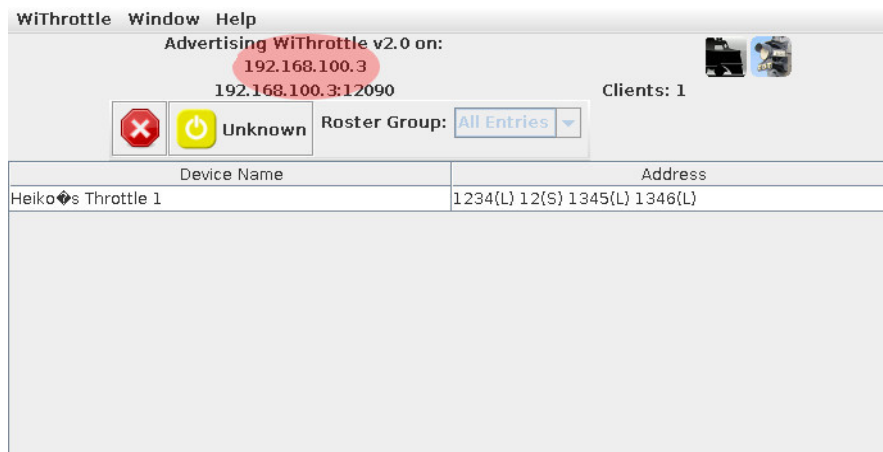

Figure 7: Screenshot of wiThrottle screen showing one throttle connected
In the second case, the throttle will change the last tuple of it’s IP address to .253 – so if the wireless network is configured with IP addresses in the *192.168.100.x*-range as highlighted in figure 7, any web browser can access the configuration at *http://192.168.100.253*.
**Throttle name:** This is a free-form identification string of the throttle. It shows up in the wiThrottle window of JMRI as shown in figure 7 and can be used to identify the throttle during configuration.
Right on top, the server settings can be found. The correct settings can be read from the JMRI withrottle server screen, as highlighted in figure 7. Normally the port does not need to be changed, as 12090 is the default setting.